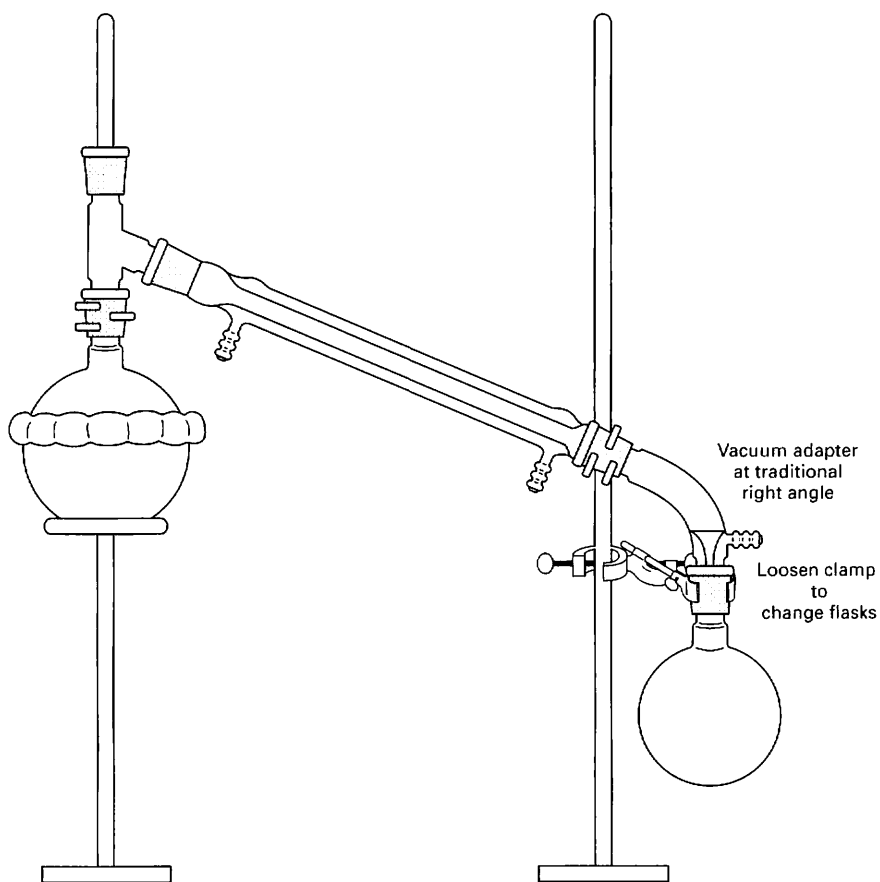

Fig. 95 Distillation setup with receiving flask at usual right-angle position.
- b. There's a lot of room from the end of the vacuum adapter to the benchtop. In this case, you'll have to set up another clamp (possibly another ringstand) and clamp the flask at the neck (Fig. 95). This will make changing the receiving flask a bit more difficult; you'll have to unclamp one flask before slipping another in and re-clamping the new one.